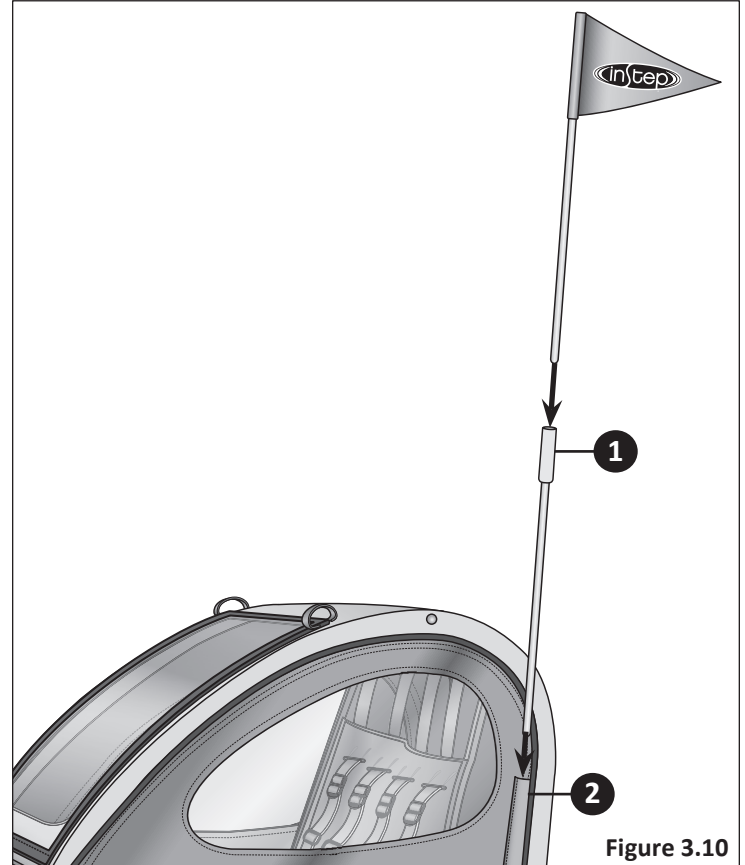

Figure 3.10
- 2 Insert the flag pole into the sleeve located at the rear corner of the trailer. **Figure 3.10**